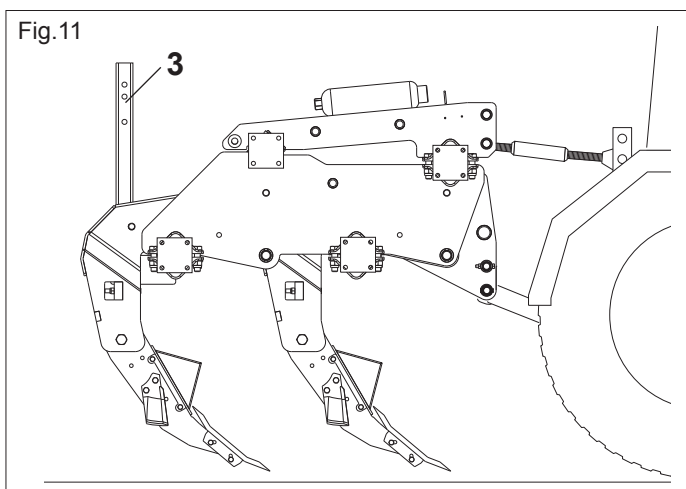

Fig.11
- 5) Lift the support props, as shown in Fig.11 (3).